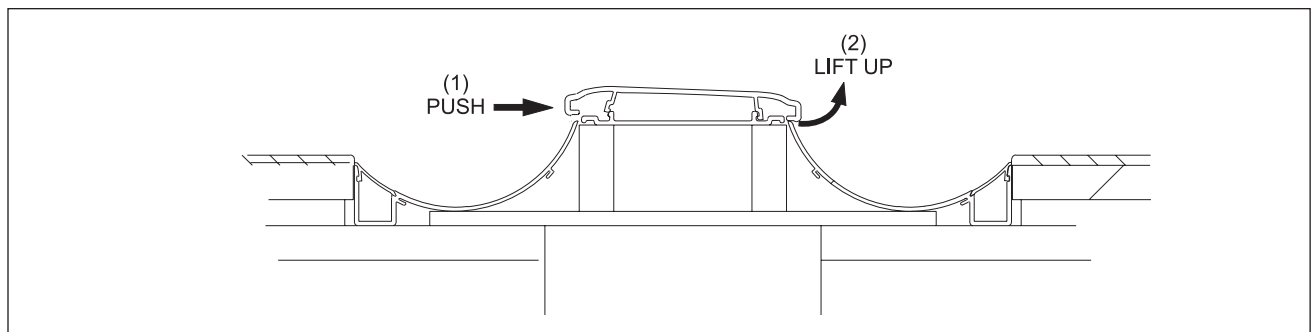

Figure 31. Lift One Side of Capping
2. Lift one side of the ball return capping off the clips. Once this side is loose from the clip push and lift the other side. Refer to *Figure 31*.